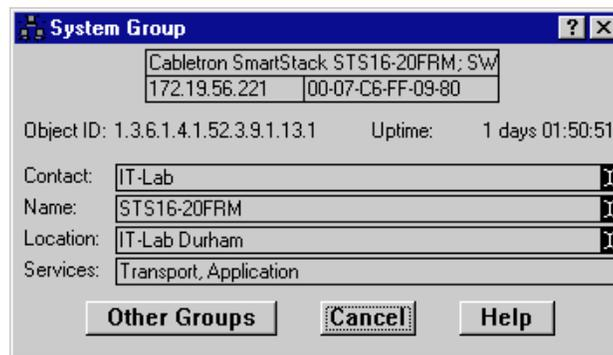

Figure 2-7. System Group Window
2. Click on **System Group**. The System group window, as shown in Figure 2-7, will appear.